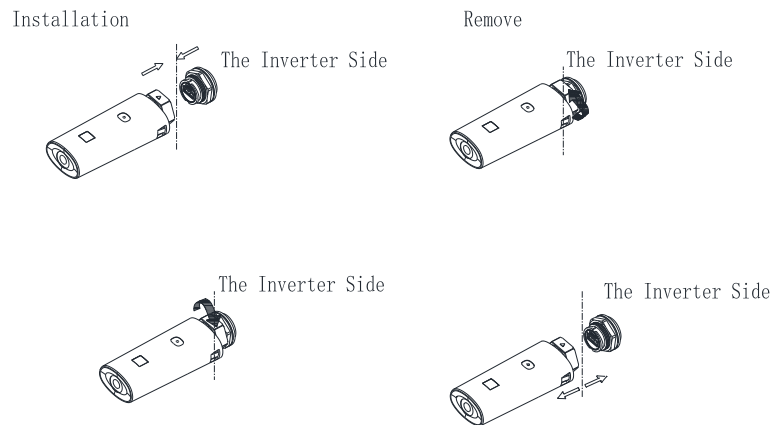

Fig 6.8B
- 3> As shown in Figure 6.8B, make sure that the  $\Delta$  is facing upwards, insert the monitoring module into the USB interface, and tighten the lock.